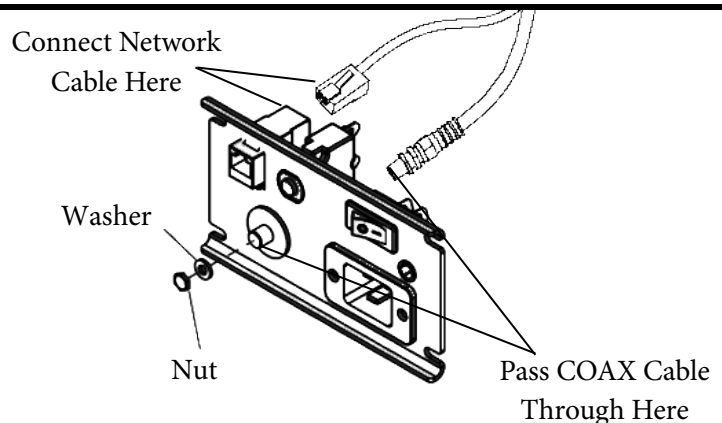

Fig 3-1-3
c) Connect the **COMM** cable to the network jack on the power plate as shown in Fig 3-1-3
d) Remove nut and washer from front of **COAX** Cable as shown in figure 3-1-3